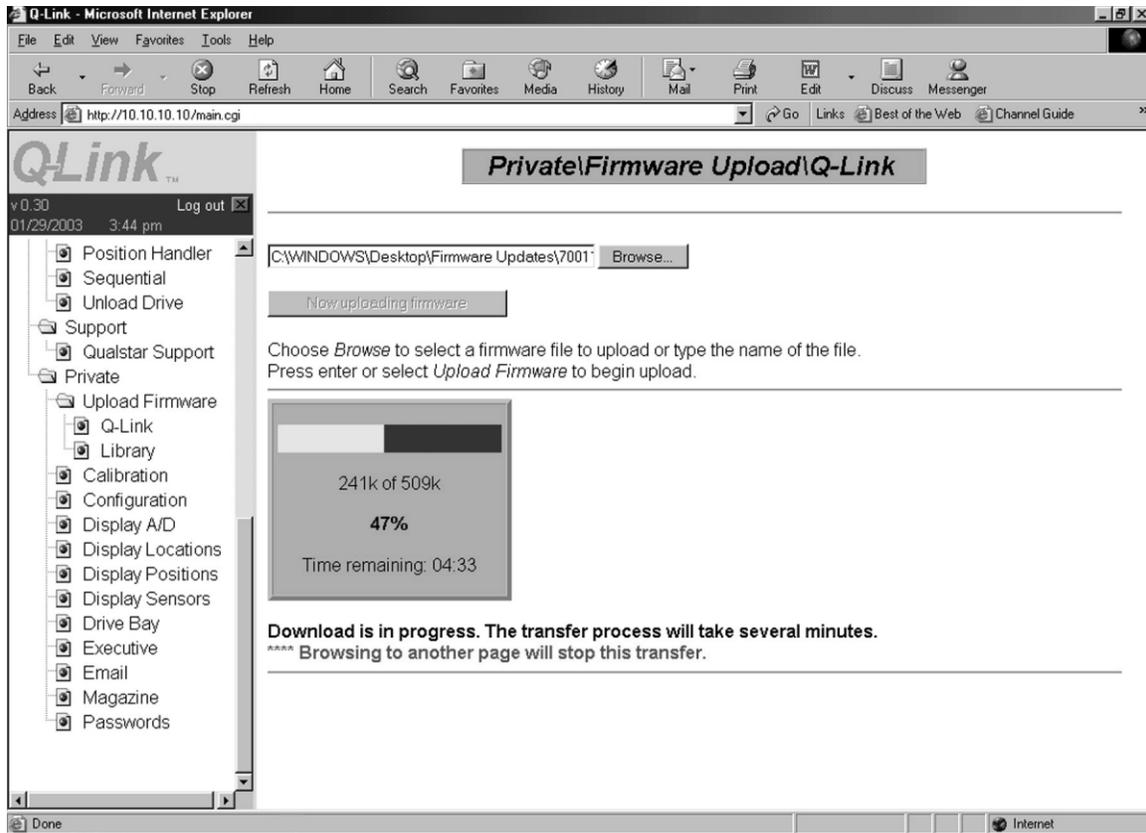
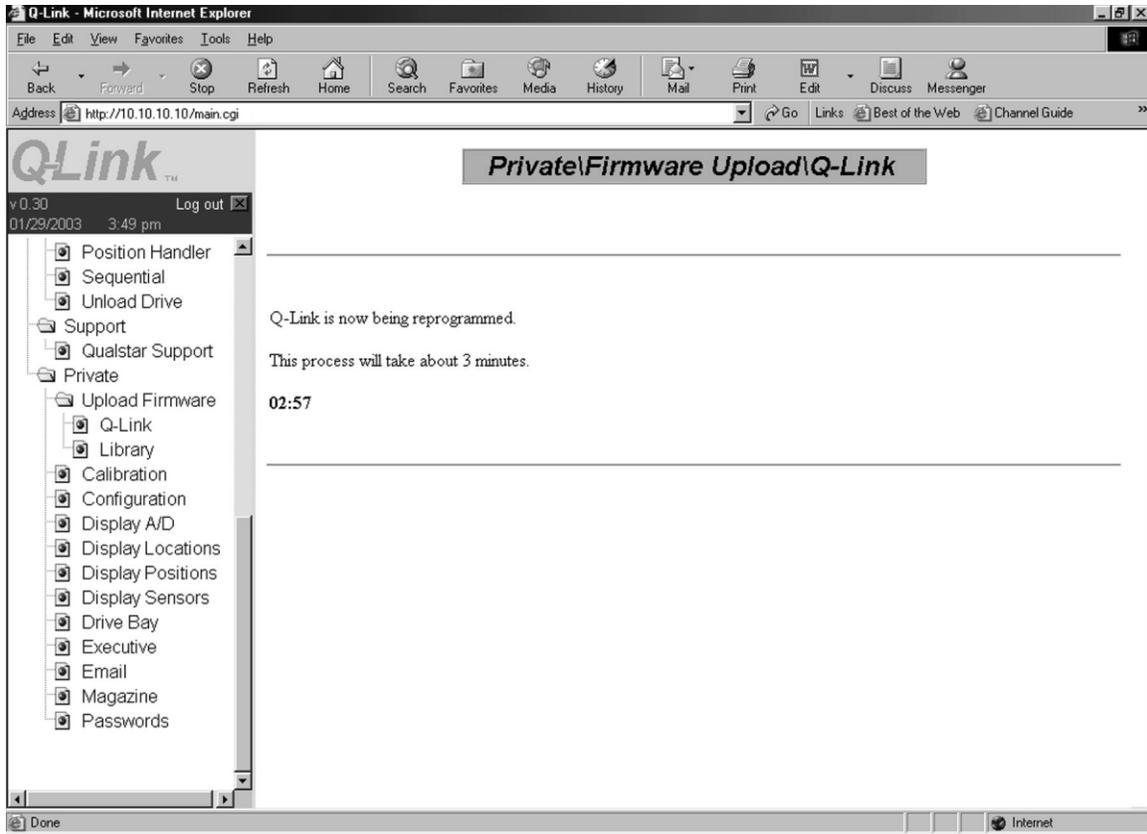

Figure 11-8 Sample of the Q-Link Firmware Upload Progress Screen
Figure 11-9 Sample of the Q-Link Firmware Reprogramming Progress Screen
4. Two different screens will appear as the uploading process proceeds. See Figure 11-8 and Figure 11-9.